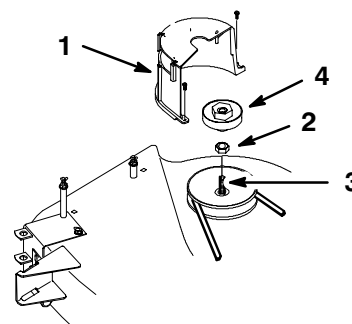

Figure 6
1. Remove the mower belt cover from the right side pulley (Fig. 6).
3. Thread the new blower pulley onto the spindle shaft in place of the pulley nut (Fig. 6). Torque pulley to 50 to 75 ft-lbs (68 to 102 N-m).